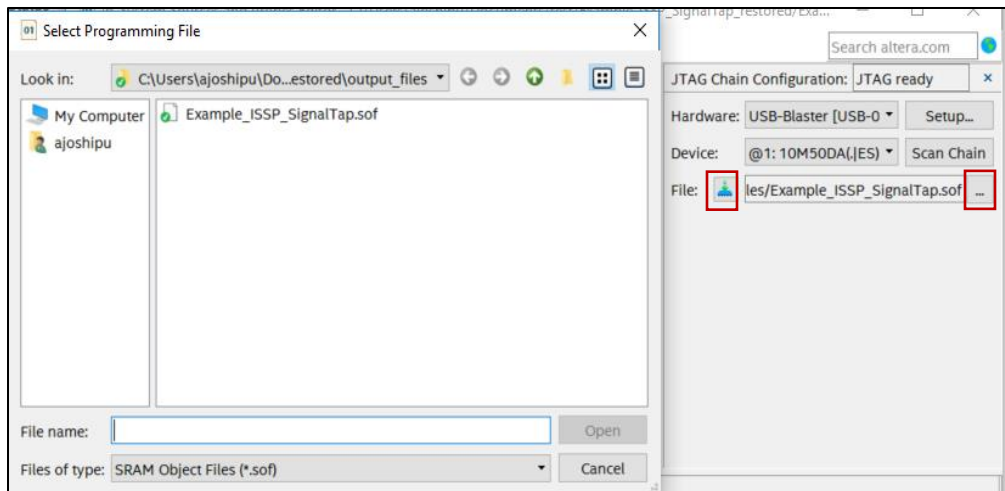

FIGURE 36 PROGRAMMING THE BOARD
5. Click the **Programming Button** (see Figure 36 below) to program the device. Remember that the progress bar may cycle a few times.